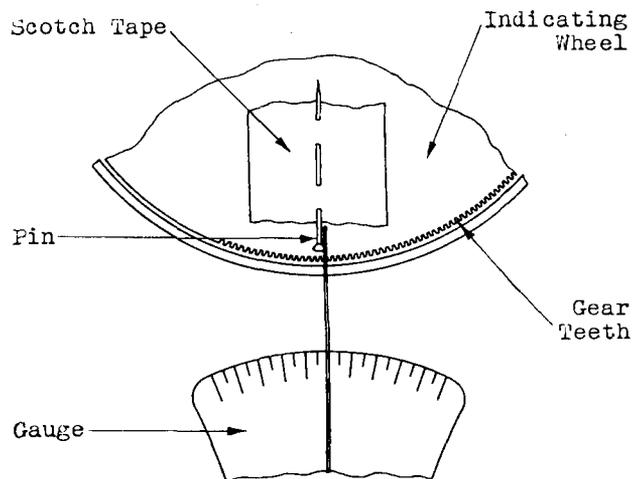

Fig. 2
2.06 Condenser Torque: Fig. 2 — With the gears disengaged, the force required at the periphery of the indicating wheel to rotate the condenser shall be as follows: The maximum reading obtained shall be noted since it is required in connection with checking requirement 2.08.